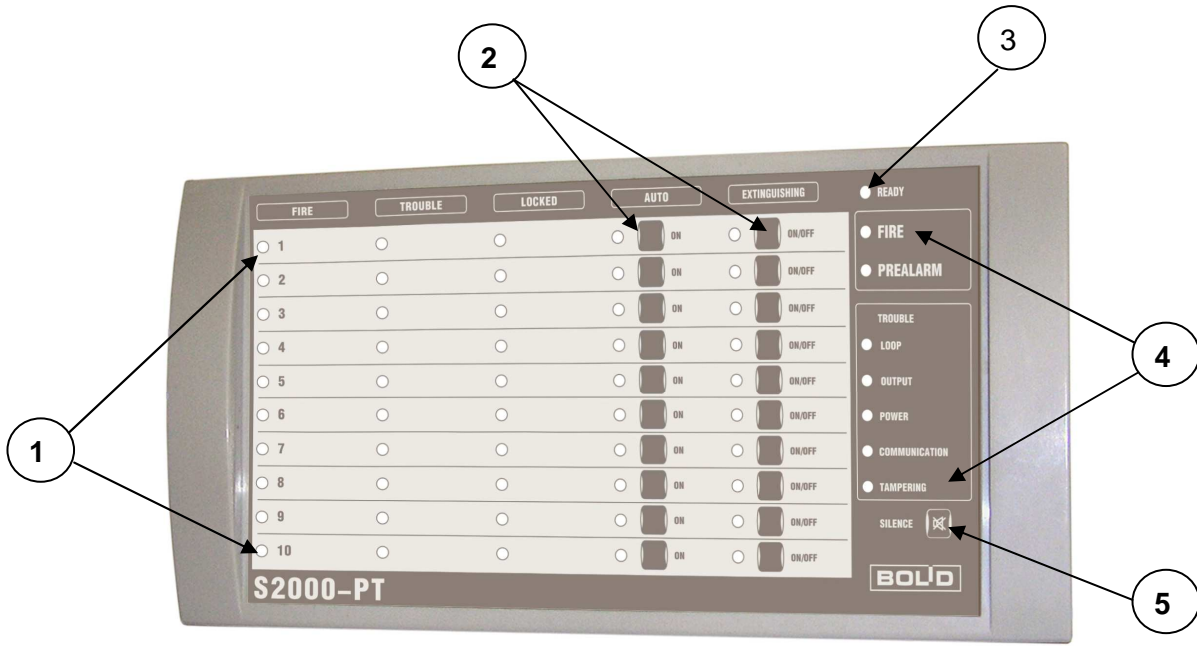

Figure 1
The S2000-PT module (see Figure 1) has ten indicator strings «1» to «10» (1) designed to indicate statuses of up to ten agent releasing applications related with the module. Each indicator string of 5 two-color LEDs can display such events or statuses in the related partitions as fire detector's responding, S2000-ASPT troubles, and locking start of the related agent releasing application as well as display the current mode of releasing (automatic or manual) and the current status of the extinguishing system operating. So, each indicator string of the module is intended to display statuses of a single S2000-ASPT device.